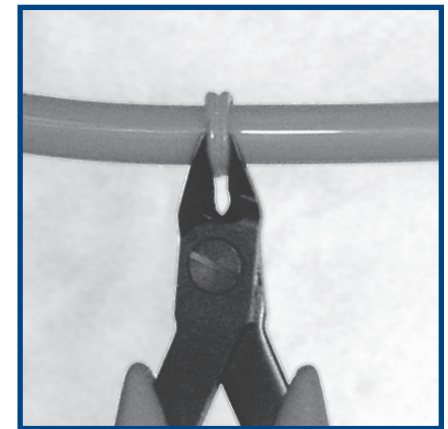

Figure 5
10. Loosen clamp nuts and remove belt from clamp. Using the flash cutters, remove the bead from the splice; see Figure 5.